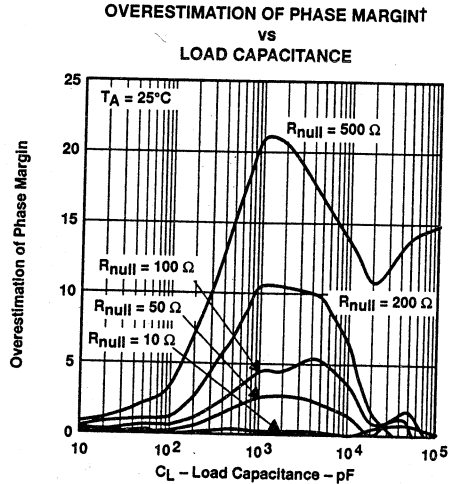

Figure 55
Using equation (1) alone overestimates the improvement in phase margin, as illustrated in Figure 55. The overestimation is caused by the decrease in the frequency of the pole associated with the load, thus providing additional phase shift and reducing the overall improvement in phase margin.